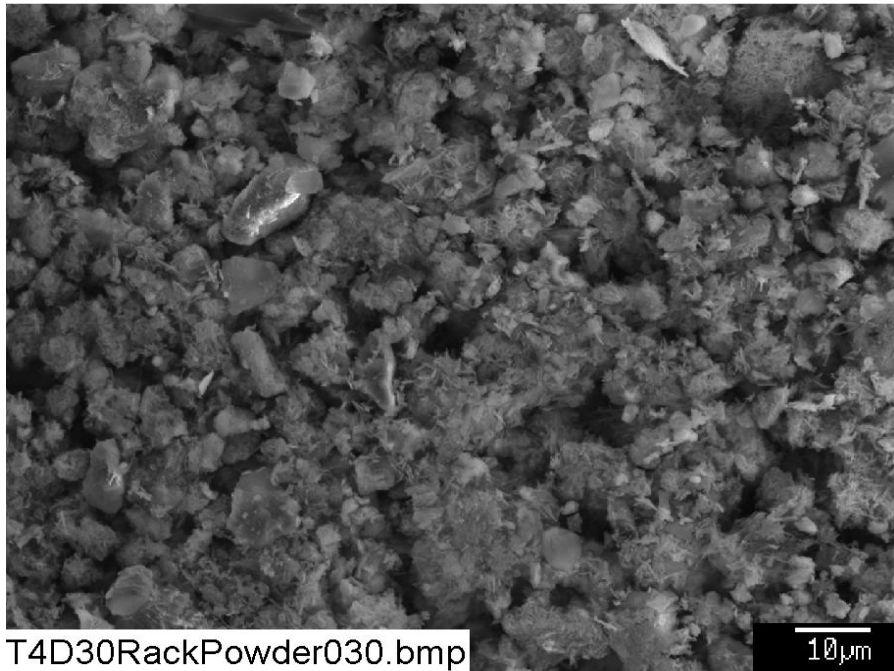
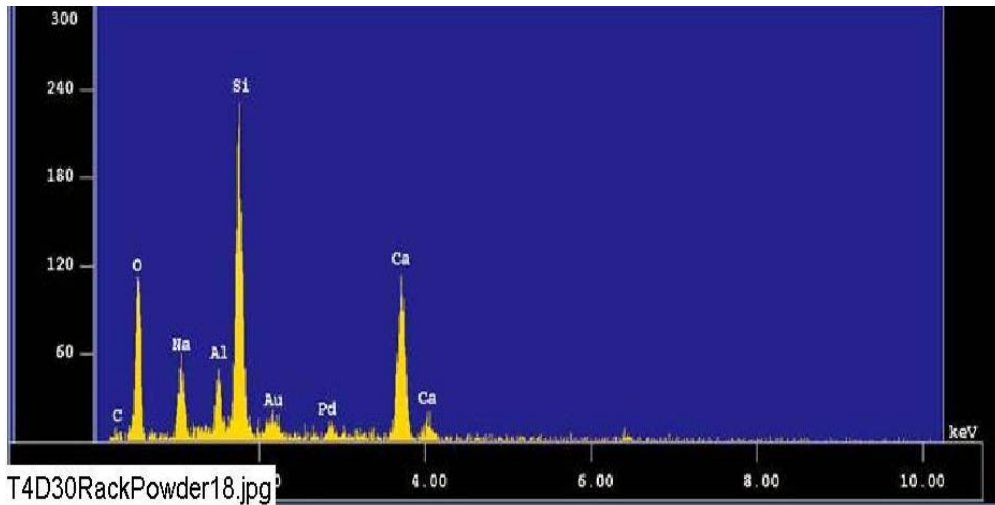

Figure E-2. SEM image magnified 1000 times for a Test #4, Day-30 fine powder on the submerged rack. (T4D30RackPowder030.bmp)
Figure E-3. EDS counting spectrum for the particles (whole image) shown in Figure E-2. (T4D30RackPowder18.jpg)
- Figure E-2. SEM image magnified 1000 times for a Test #4, Day-30 fine powder on the submerged rack. (T4D30RackPowder030.bmp) E-4
- Figure E-3. EDS counting spectrum for the particles (whole image) shown in Figure E-2. (T4D30RackPowder18.jpg)..... E-5
- Table E-1. Chemical Compositions for T4D30RackPowder18.jpg, Figure E-3 E-6
Table E-1. Chemical Compositions for T4D30RackPowder18.jpg, Figure E-3